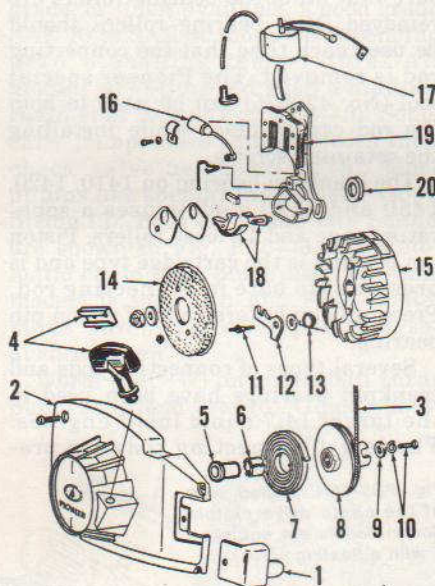

Fig. PR5-17—Exploded view of the rewind starter. Some models may not be equipped with steel bushing (5).
**REWIND STARTER.** Starter pawls (12—Fig. PR5-17) are located on the flywheel and engage a notch in pulley (8) for starting. All models are equipped with two sets of pawls (12), pivots (11) and springs (13). Pawls and springs should be installed as shown in Fig. PR5-18. Starter must be disassembled to renew rope (3—Fig. PR5-17), or rewind spring (7). The 5/32-inch diameter nylon cord should be 45 inches long. The rewind spring should be preloaded 3 turns when assembling.